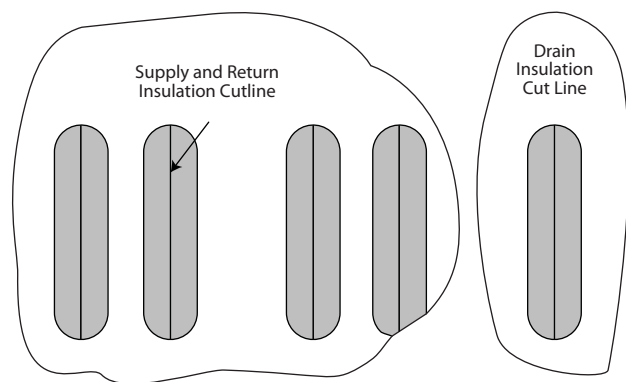

Figure 5
6. Use a sharp retractable knife (see Figure 5) and vertically cut the insulation down the center of the riser and drain knockouts the full length of the knockout.